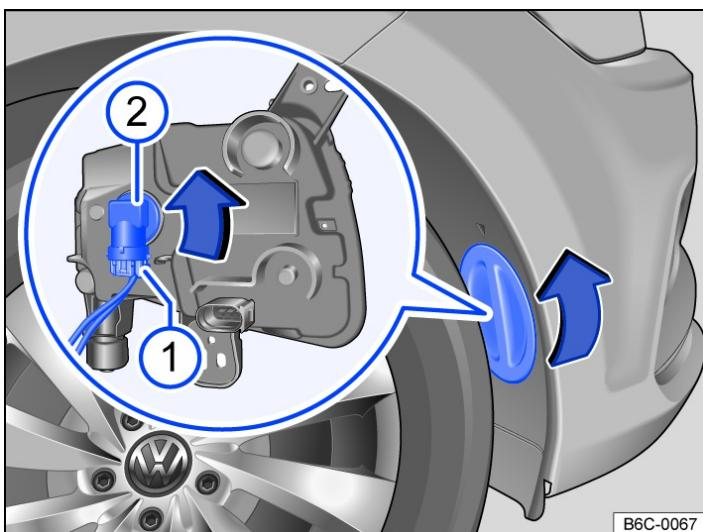

Fig. 1 In the front bumper on the right: changing a bulb in the headlight.
2. Use one hand to hold the tail light cluster in the fitting position while using the other hand to screw tight the securing screw → *Fig. 1* 1.